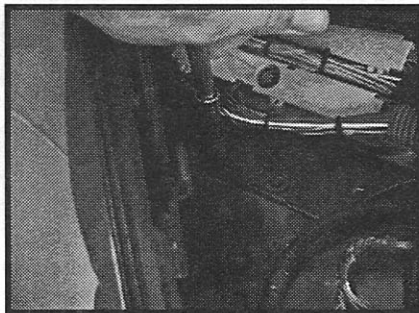

Figure 3
(see Fig. 3).
8. Reinstall the hold-down bracket... (see Fig. 3). **NOTE:** With the JET PCM installed onto the ECM (computer) you will need to angle the computer past the weather-stripping and hood edge to properly seat the ECM in its factory location.